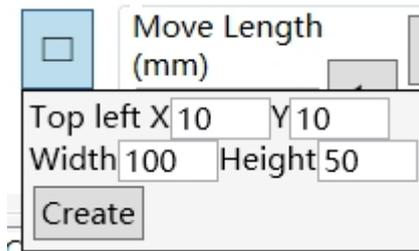

Fig. 4.3.3d Rectangle Creation Pop-up Window
② Right-click to open the coordinate input window, enter the coordinates and width and height values in the box, and click "Create" to create a corresponding rectangle according to the set parameter values. As shown in Fig. 4.3.3d and 4.3.3e below.